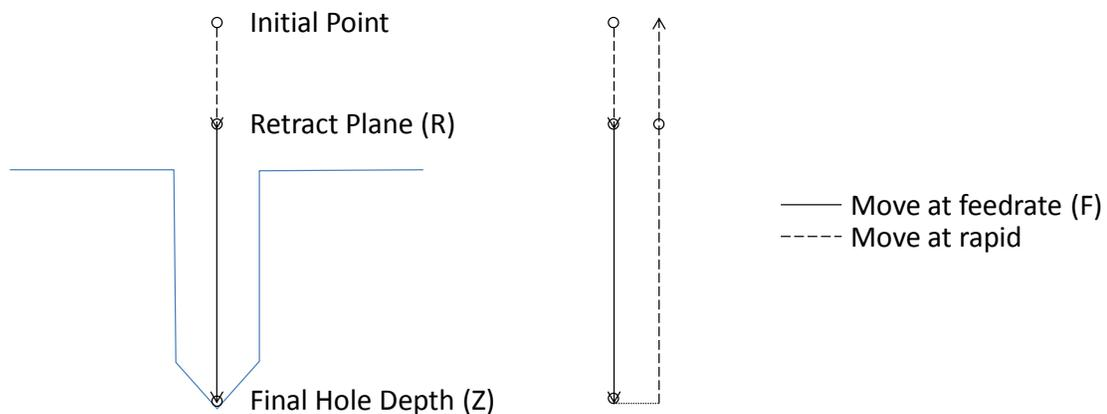

FIGURE 18 MOTION OF TOOL POINT FOR G81 CYCLE. END Z POSITION WILL BE DETERMINED BY G98/G99 SETTING
**G81 – Drilling:** This is a straight drilling cycle. The tool simply moves to position, feeds to the bottom of the hole then rapid retracts to either the R point or the initial point. See figure 18 for a graphic of the tool motion. The format is as follows: